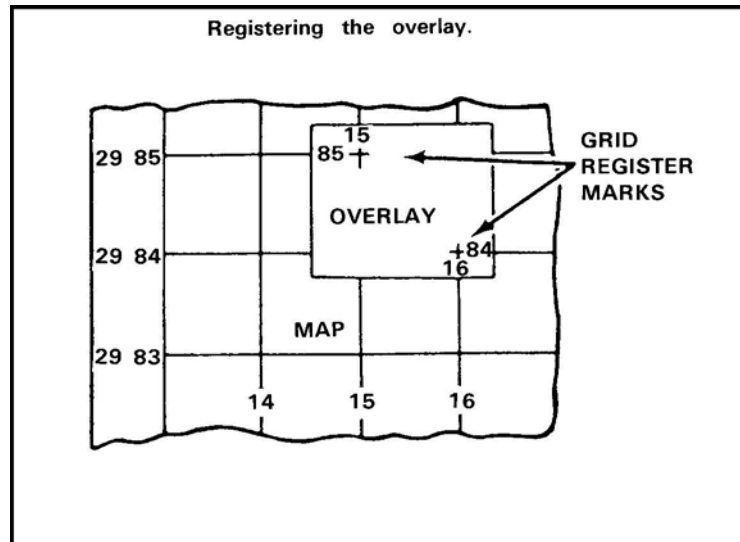

Figure 071-329-1019-1
3. Place the overlay on the map so that the grid register marks fall exactly on top of the grid intersections (Figure 071-329-1019-1).